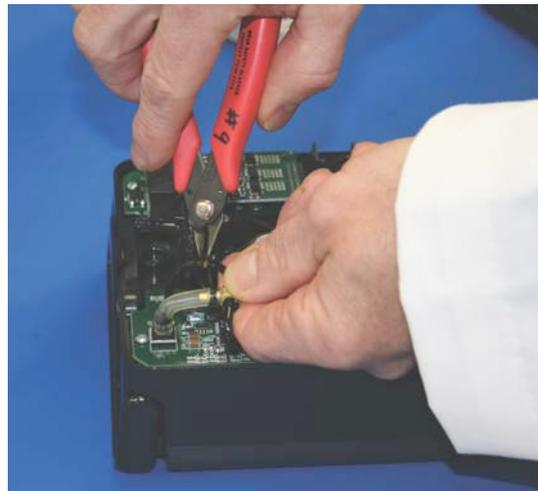

Figure 5.8
7. Carefully disconnect the 1/8" OD black tubing coming from the back of the unit to the limiting orifice. (See Figure 5.8.)